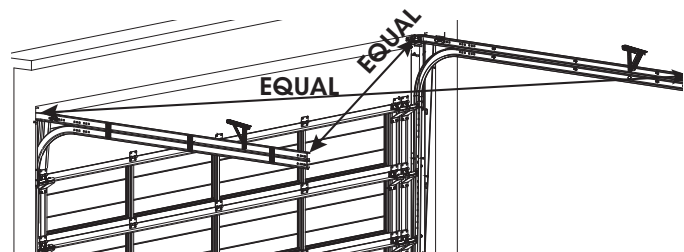

Fig: 3.4.2
- d) Measure from the top of the vertical track to the end of the opposite horizontal track Fig 3.4.2.
- f) Measure along the horizontal track to 2000mm and find a structurally sound beam to fix your support to the ceiling. Fig 3.4.2 for single supports.